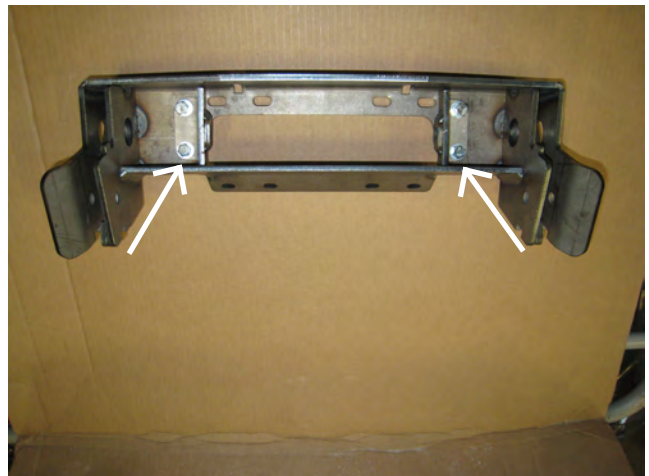

Figure 3
3. Attach the LH and RH locating bracket to the plow mount. Use the supplied 1/4-20 hex head bolts, washers and lock nuts as shown in Figure 3. Tighten the nuts just enough to take the slack out of the bolts but allowing the brackets to slide. See Figure 3.